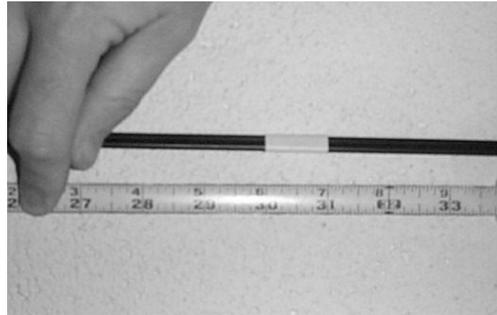

Figure 2 – Mark the jacket removal length.
4.3 Mark the cable at the required jacket removal length (Figure 2). Refer to the closure documentation to determine the correct length of cable jacket that must be removed.